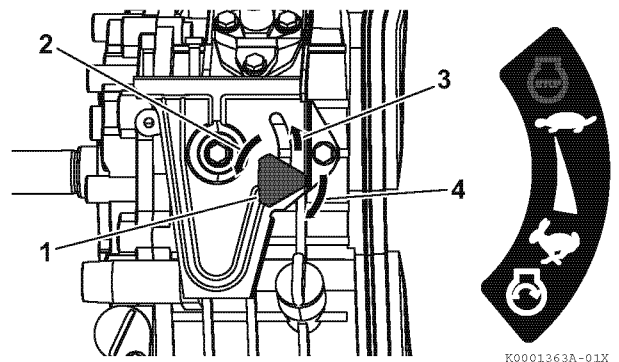

Figure 21
3. If your engine speed control is similar to **Figure 21**:
- 1- Turn the engine speed control knob (1, **Figure 21**) to the left (2, **Figure 21**).
- 2- Slide the engine speed control knob to the STOP position (3, **Figure 21**).
- 3- Turn the engine speed control knob to the right (4, **Figure 21**) to tighten it.